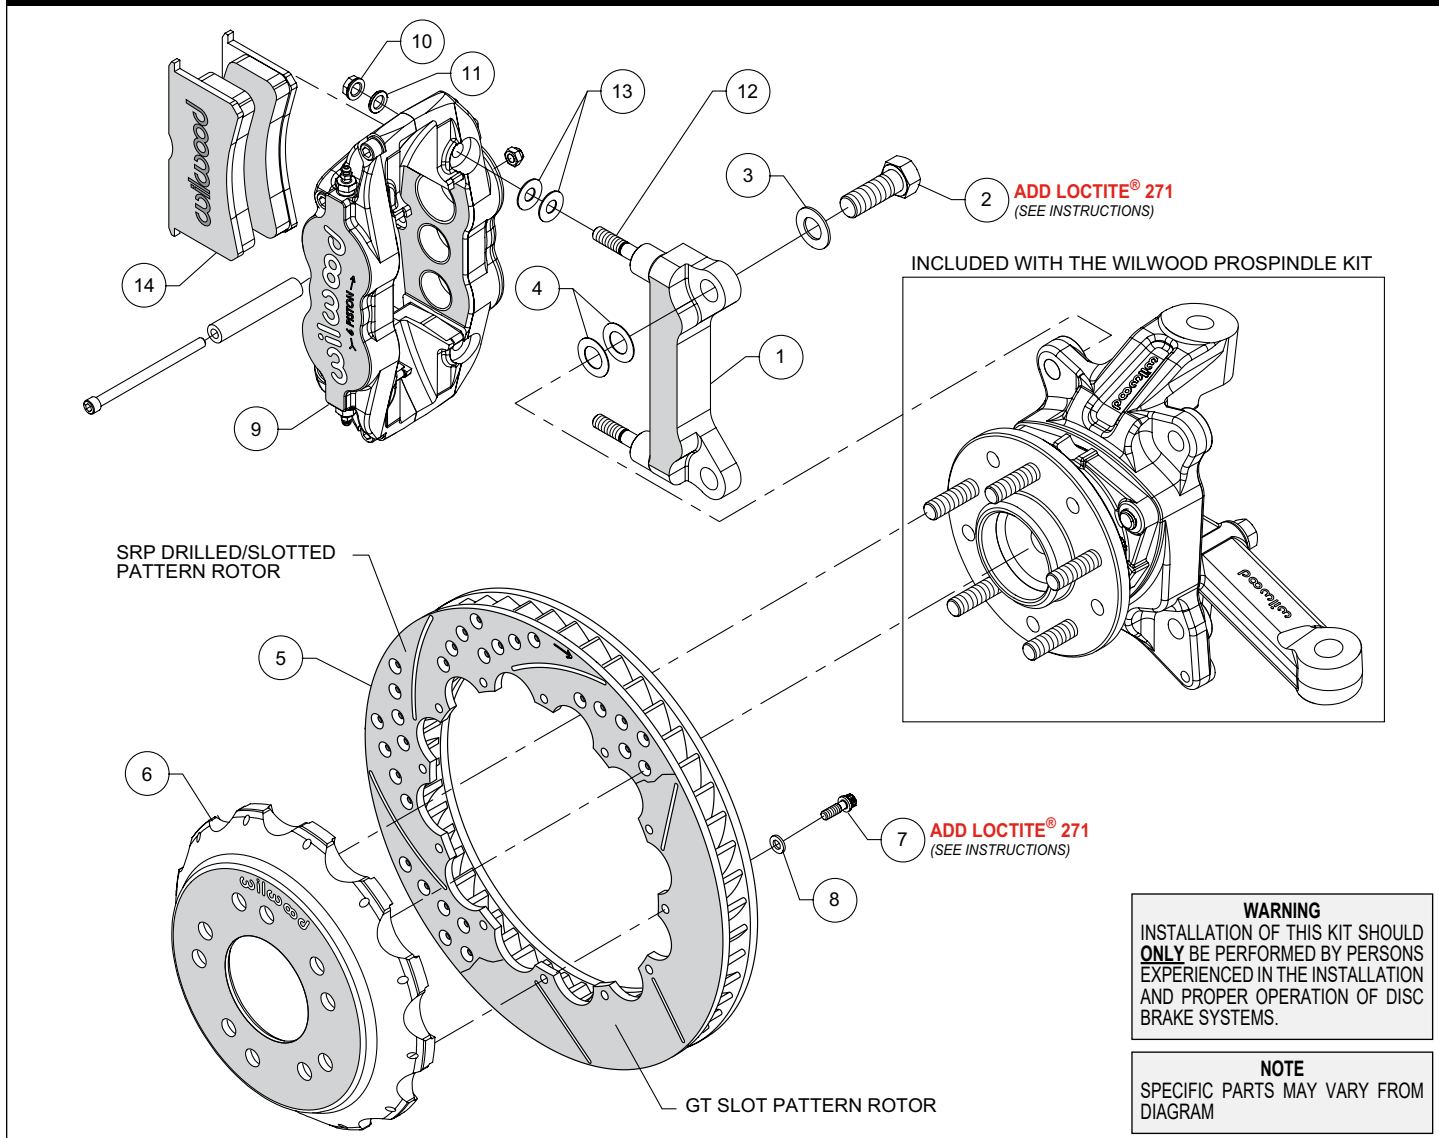
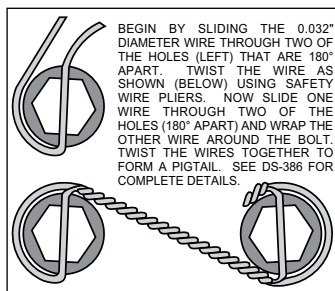

Figure 1. Typical Installation Configuration
Figure 3. Safety Wire Diagram
**NOTE:** Numbers in parenthesis refer to the parts list and Figure 1 on the preceding pages.
- The caliper mount bracket (1) should initially be installed with clean, dry threads on the mounting bolts. Orient the bracket as shown in Figure 1 and Photo 1 and install using mount bolts (2) and washers (3). Initially place two .024" thick shims (4) on each bolt between the bracket and spindle, Figure 1. Temporarily tighten the mounting bolts. **NOTE:** The bracket must fit squarely against the mounting points on the spindle. Inspect for interference from casting irregularities, machining ridges, burrs, etc. Later, after the caliper alignment has been checked, the mount bolts will be secured using red Loctite® 271.
- Orient the rotor (5) and the hat (6) as shown in Figure 1 and Photo 2. Attach rotor to hat using bolts (7) and washers (8). Apply red *Loctite*® 271 to the bolt threads and torque to 155 **in-lb** using a criss-cross pattern. For an added measure of security, the bolts may be safety wired using standard 0.032 inch diameter stainless steel safety wire as shown in Figure 3. Please refer to Wilwood's data sheet DS-386 (available at [www.wilwood.com/Pdf/DataSheets/ds386.pdf](http://www.wilwood.com/Pdf/DataSheets/ds386.pdf)) for complete safety wire installation instructions.
- NOTE:** This kit contains distinct right and left hand calipers that must be mounted in a specific direction, as described below. Initially place two .035" thick shims (13) on each stud (12) between the caliper and the bracket, as shown in Figure 1 and Photo 5. Mount the caliper (9) onto the bracket (1) using lock nuts (10) and washers (11), Figure 1. Ensure that the caliper is mounted so the largest pistons are at the rotor exit end of the caliper, in relation to the direction of rotor rotation. Temporarily tighten the lock nuts and view the rotor through the top opening of the caliper. The rotor should be centered in the caliper, Photo 6. If not, adjust by adding or subtracting shims (4) between the bracket and the spindle. Always use the same amount of shims on each of the two mounting bolts. Once the caliper alignment is correct, remove the bracket mounting bolts one at a time, apply red *Loctite*® 271 to the threads, and torque to 140 ft-lb.